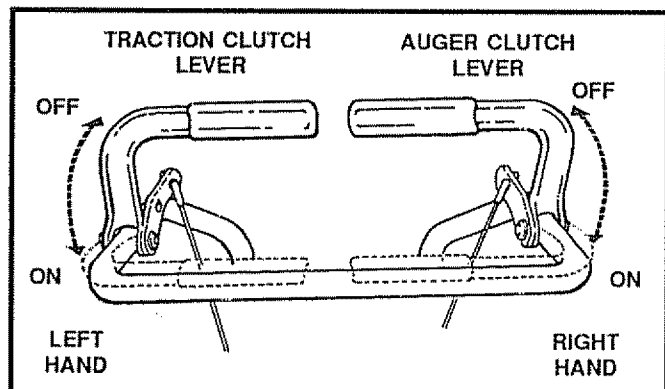

FIG. 10
- To stop throwing snow, release the auger clutch lever (See Fig. 10).
- Engage the traction clutch lever (See Fig 10, left hand). As the snow thrower starts to move, maintain a firm hold on the handles, and guide the snow thrower along the clearing path. Do not attempt to push the snow thrower.
- Push down the auger clutch lever (See Fig. 10, right hand).